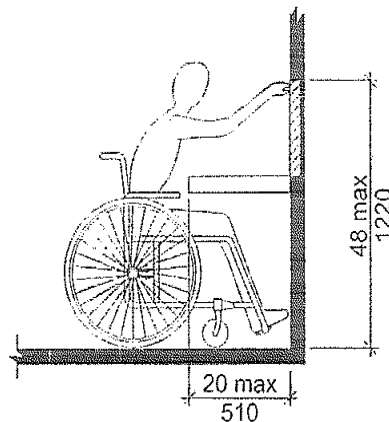

Figure 2
- Obstructed high forward reach. If the high forward reach is over an obstruction, reach and clearances shall be as shown in Figures 2 and 3.
Note for Figure 2: X shall be less than or equal to 25 inches. Z shall be greater than or equal to X. When X is less than 20 inches, then Y shall be 48 inches maximum. When X is 20 to 25 inches, then Y shall be 44 inches maximum.